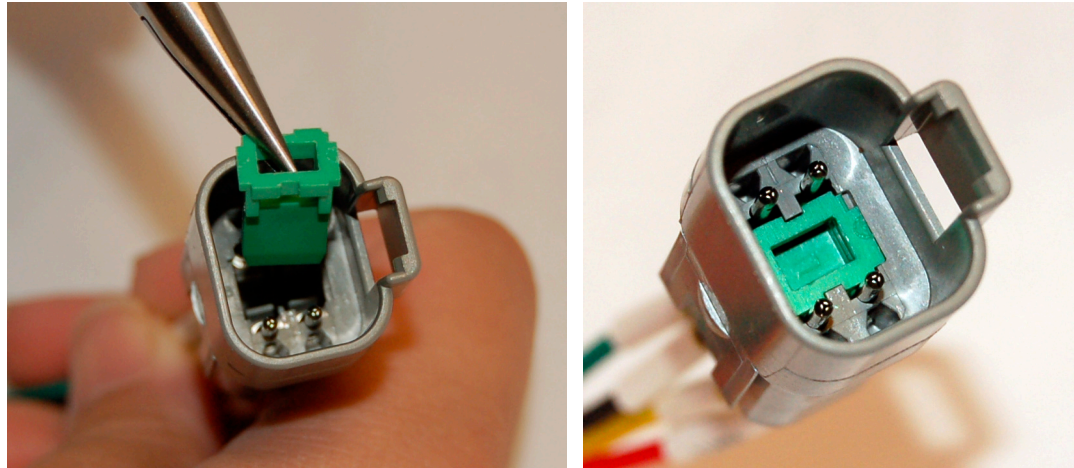

Figure 14: Deutsch 4-pin Receptacle with Wedge Lock
- 8) Once all the pins are in, insert the Green wedge lock into the center of the Deutsch 4-pin receptacle using needlenose pliers until it locks in place. Ensure that the pins have been inserted deep enough into the 4 pin receptacle so that no part of the pins are exposed on the back and that the pins protrude above the wedge lock as shown in Figure 14.